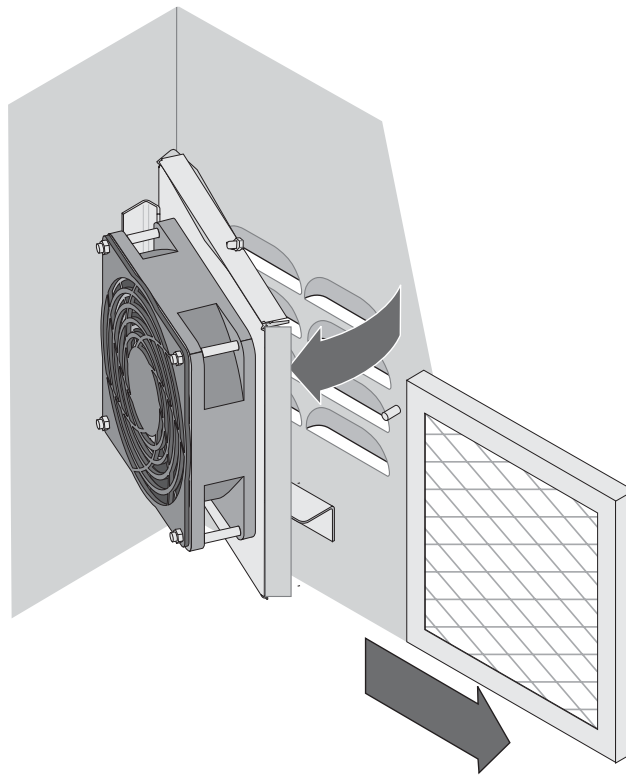

Figure 7-9: Removing the Fan Filter
- 4 Pull out the front of the fan assembly and remove the fan filter (Figure 7-9).